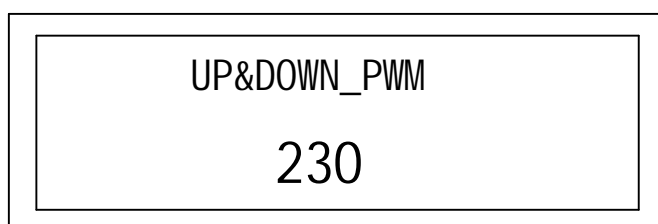

Fig.10: “HAND” UP&DOWN_ PWM SETUP
5). UP&DOWN_ PWM: UP&DOWN_ PWM on “HAND” status. Fig.10.